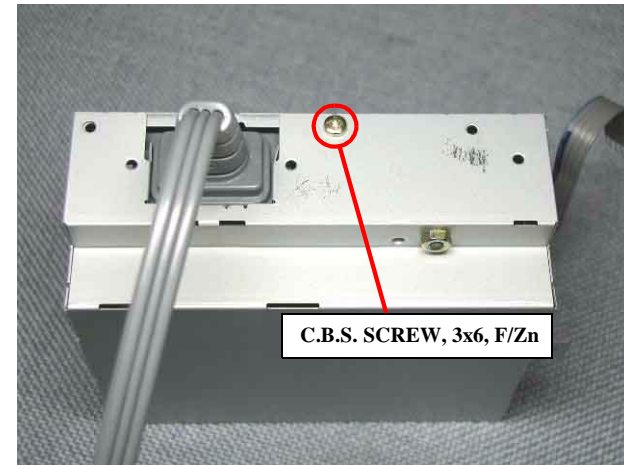

Figure 4-23. Upper power supply board shield plate removal
- Fasten one screw (C.B.S. SCREW 3x6 F/Zn) for securing the Upper power supply shield plate to the Lower power supply shield plate. (Refer to Figure 4-23)